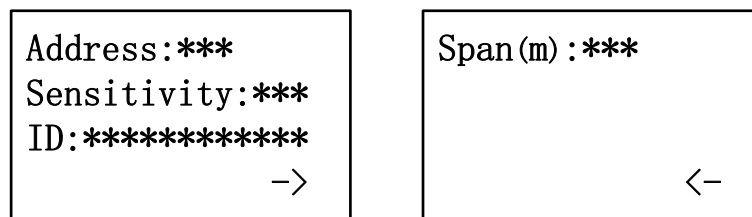

Figure 9: Interface Display
2. Switch on the programmer, then press button “1” to view the address [for addressable system use only], code and sensitivity level. Refer to Figure 9.
3. Press button “Page” to view the Span parameter. Refer to Figure 9.